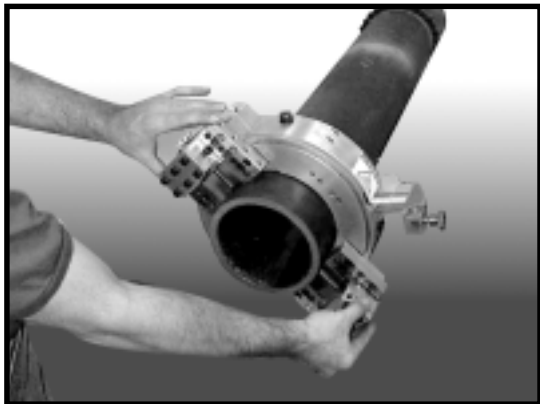

FIGURE 13
39. Return the parting and beveling tools to their uppermost (12 and 6 o'clock) position by rotating starwheels clockwise (Figure 13).